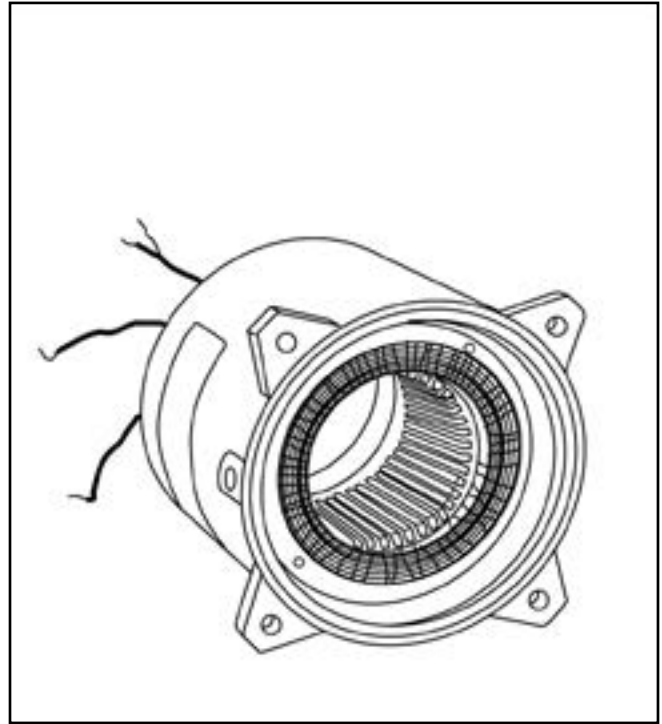

FIG. 24
11. If necessary to replace motor stator, use new housing with stator pressed in. Both housing and stator must be replaced as a unit, as stator is pressed in at factory and is not to be replaced in the field. Fig. 24